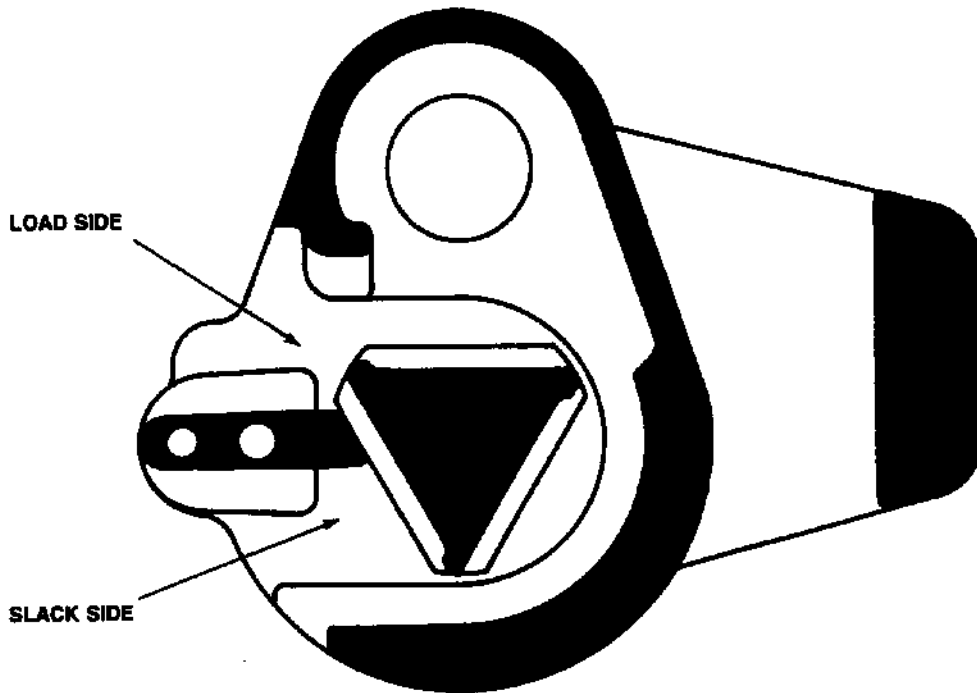

FIGURE 5-2
- b. Align load sheave pocket with chain shedder per Figure 5-2. Load sheave will not accept chain unless this step is performed.